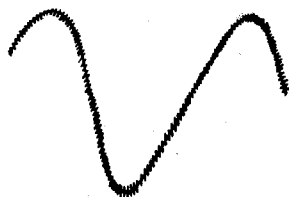

Figure 9
7. Adjust the transformer (T301) to obtain the waveform shown in figure 9.